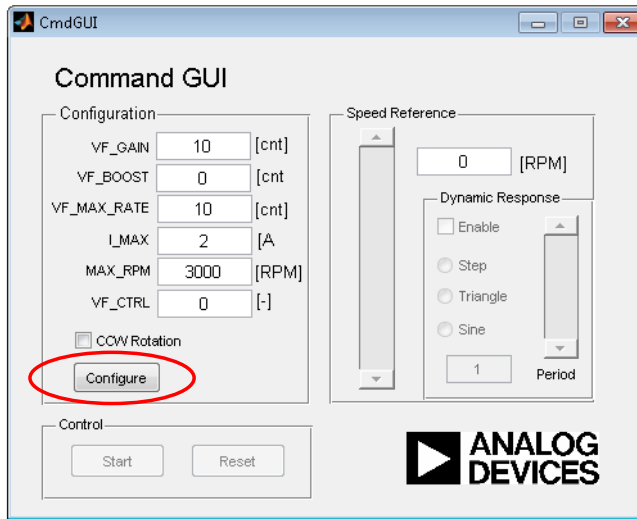

Figure 14 ADIMonitor, command pane.
6. In the command pane of ADIMonitor Press *Configure*, see Figure 14.